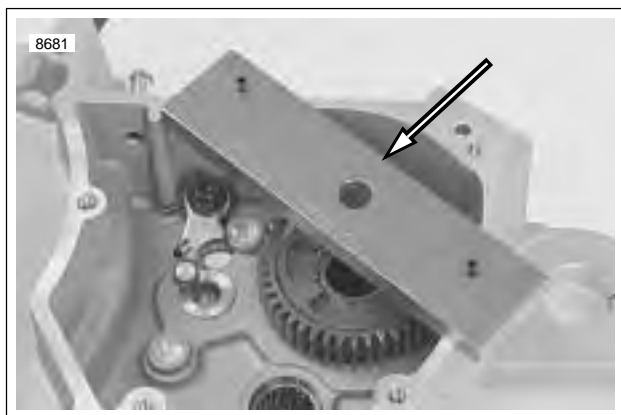

Figure 6-64. Bearing Remover Cross Plate Mounting (Part No. B-45847)
4. See Figure 6-64. Place cross plate on crankcase as shown.